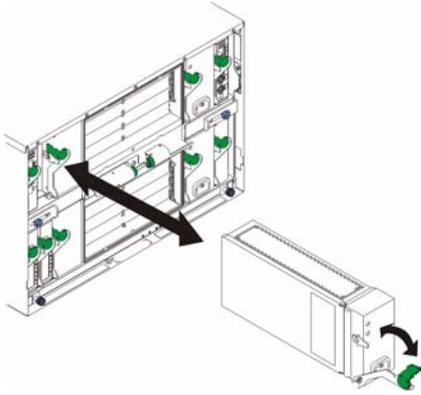

Figure 5. Fibre Channel switch module release latch
5. Pull the release latch toward the bottom of the switch module, as shown in Figure 5. The module moves out of the bay approximately 0.64 cm (0.25 inch).